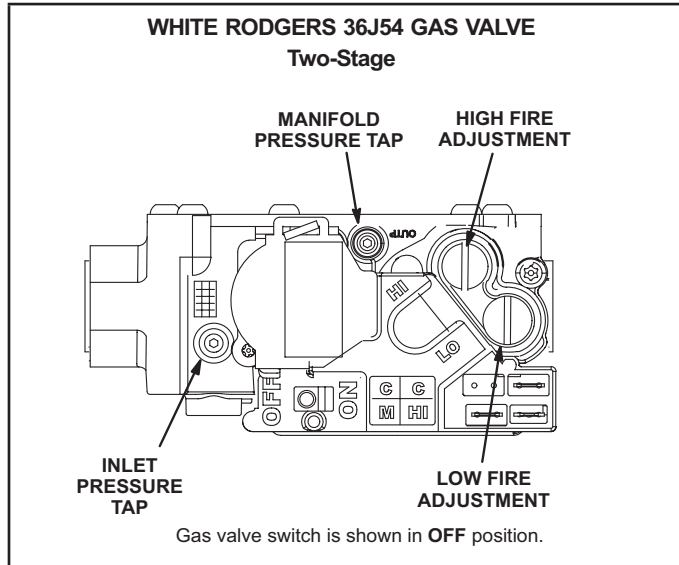

FIGURE 26
Gas Valve Operation (FIGURE 26)
- 5 - Move gas valve switch(es) to **OFF**. See FIGURE 26.
- 6 - Wait five (5) minutes to clear out any gas. If you then smell gas, **STOP!** Immediately call your gas supplier from a neighbor's phone. Follow the gas supplier's instructions. If you do not smell gas, go to the next step.
- 7 - Move gas valve switch(es) to **ON**. See FIGURE 26.